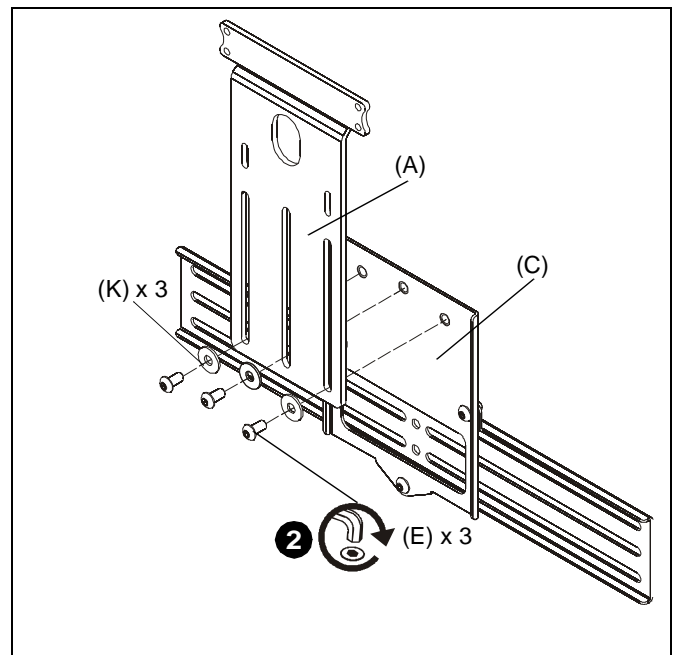

Figure 4
2. Use three 1/4-20 x 3/8" button head cap screws (E) and three 1/4" washers (K) to secure attachment bracket (A) to long extension bracket (C). (See Figure 4)